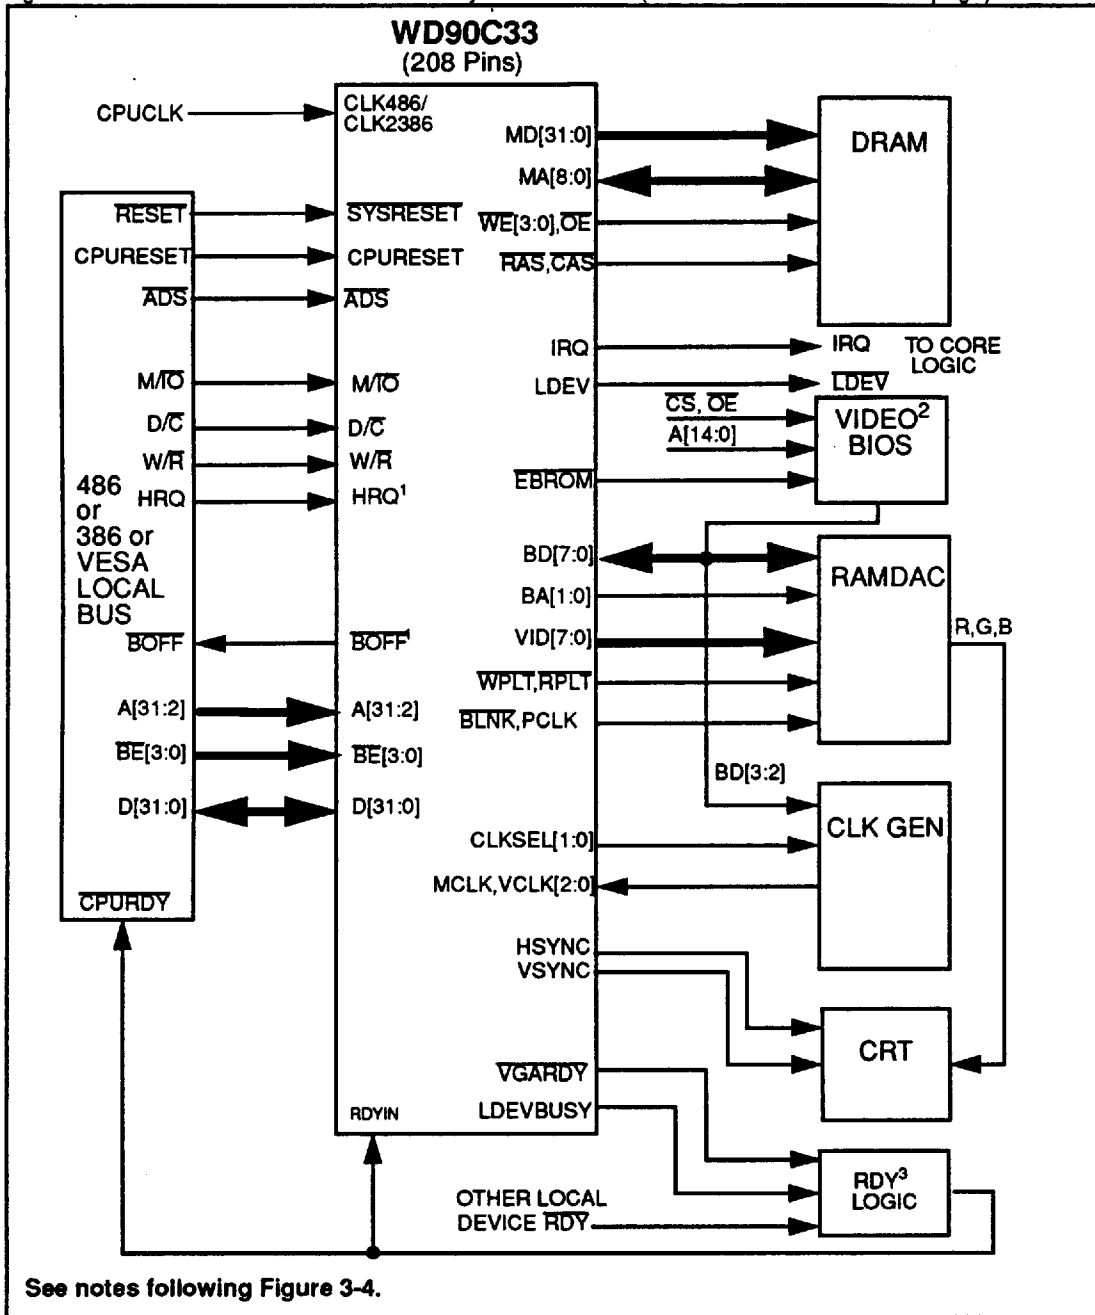
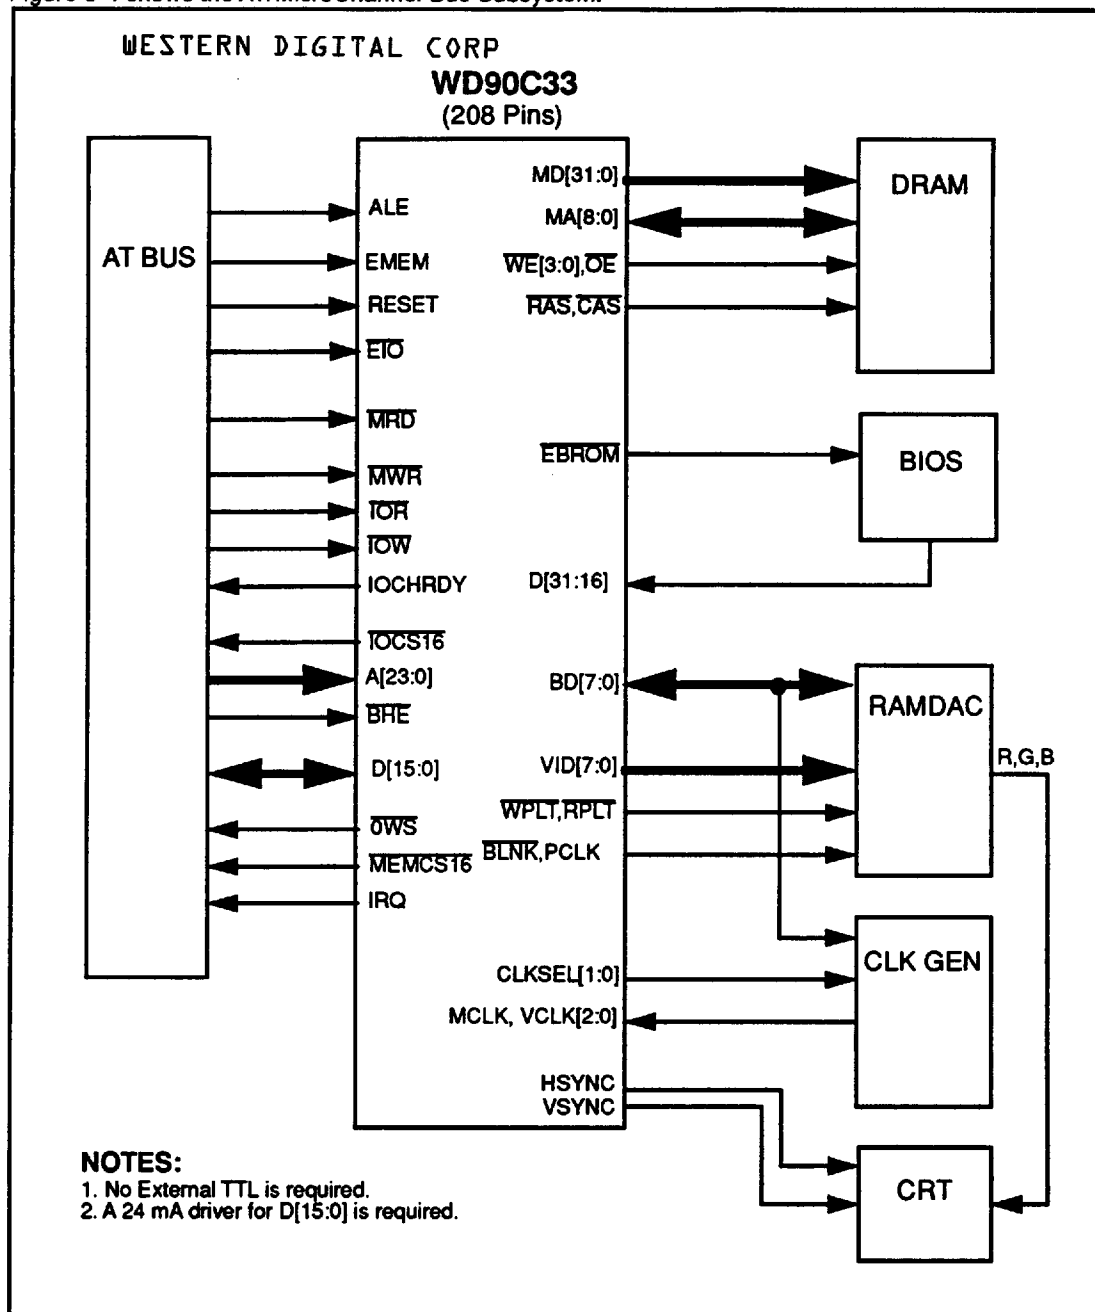

FIGURE 3-3 LOCAL BUS SUBSYSTEM INTERFACE, 32-BIT
FIGURE 3-4 AT/MICROCHANNEL BUS SUBSYSTEM
- Figure 3-3. AT/MicroChannel Bus Subsystem
- Figure 3-4. Local Bus Subsystem Interface
The WD90C33 also operates in both the AT Bus and the PS/2 MicroChannel bus architecture configurations (see Figure 3-4). The selection of the bus architecture determines the operating mode, and is selected by the state of Configuration Register bit CNF(2) during power-on or system reset as described in Section 9.
Figure 3-3 shows the 32-bit Local Bus Subsystem Interface (Refer to notes on the next page).
Figure 3-4 shows the AT/MicroChannel Bus Subsystem.
**NOTES FOR FIGURE 3-3**
The WD90C33 uses memory data connector pins to configure an internal configuration register during power-on or system reset as described in Section 9. Configuration bit CNF(2) determines whether the WD90C33 will operate in AT or MicroChannel Architecture (MCA) implementation (AT or MicroChannel Interface Mode as shown in Figure 3-4). Configuration bit CNF(11) determines whether the WD90C33 will operate in the Local Bus or AT bus mode as shown in Figure 3-3.